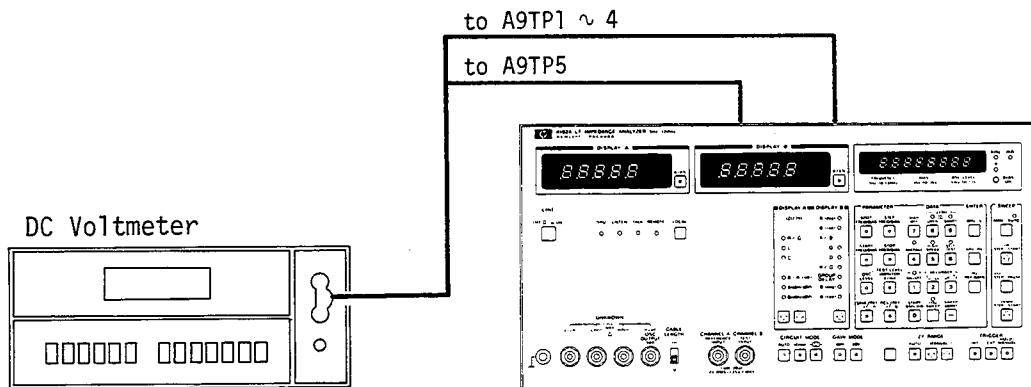

Figure 5-19. A9 Analog Recorder Output Check and Adjustment Setup.
- Connect the high input of the 3465A to A9TP1 and the low input to A9TP5 as shown in Figure 5-19.